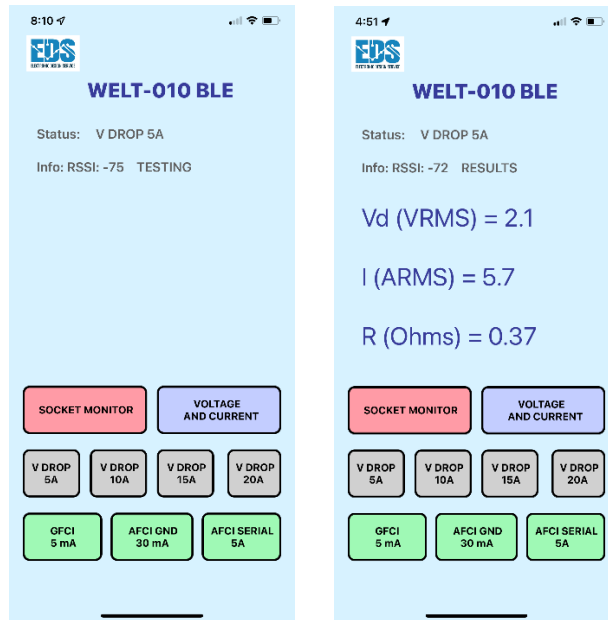

Figure 18 Voltage Drop Test Example screenshot
*Voltage Drop and Impedance Test Operation (see Figure 18)*